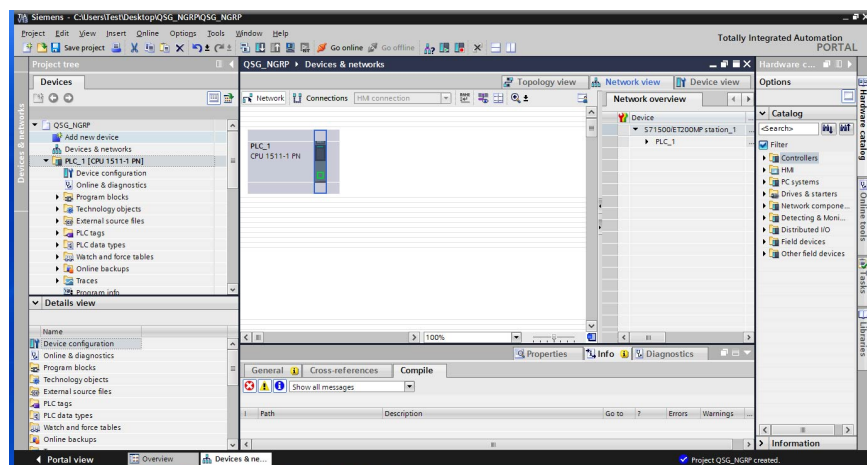

Figure 76. PROFINET Network with PLC Added
9. Select the **Network view** tab to display the PROFINET network with the PLC added (see Figure 76).